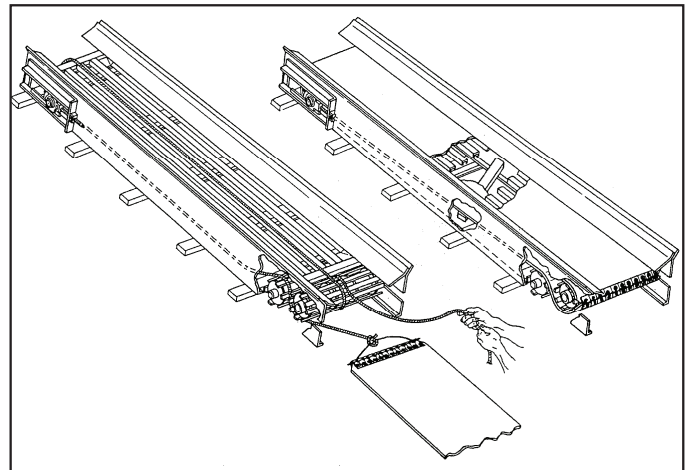

Figure 10- #5 Belt Installation
10. Figure 10 - Thread the rope along the top of the belt channel, around the front idler pulley, over the snubber pulley, and beneath the drive pulley.